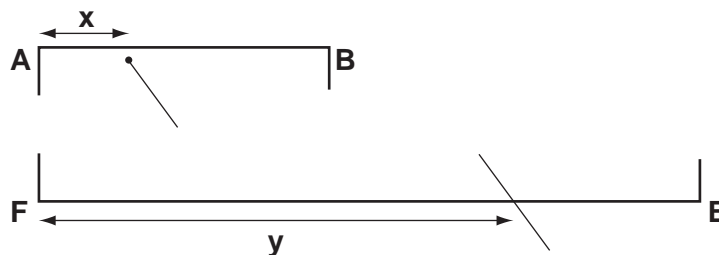

Fig. 2.3
- (a) Figs. 2.3 and 2.4 show distances x and y for the two missing readings. Measure the distances x and y and record them in Fig. 2.2. [4]